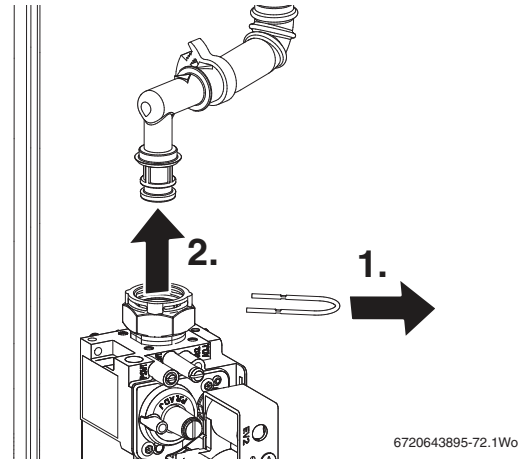

Fig. 78 Gas valve upper connection
Refer to figure 78
- ▶ Remove wire clip from gas valve outlet then pull gas pipe free from the gas valve (see figure 78).